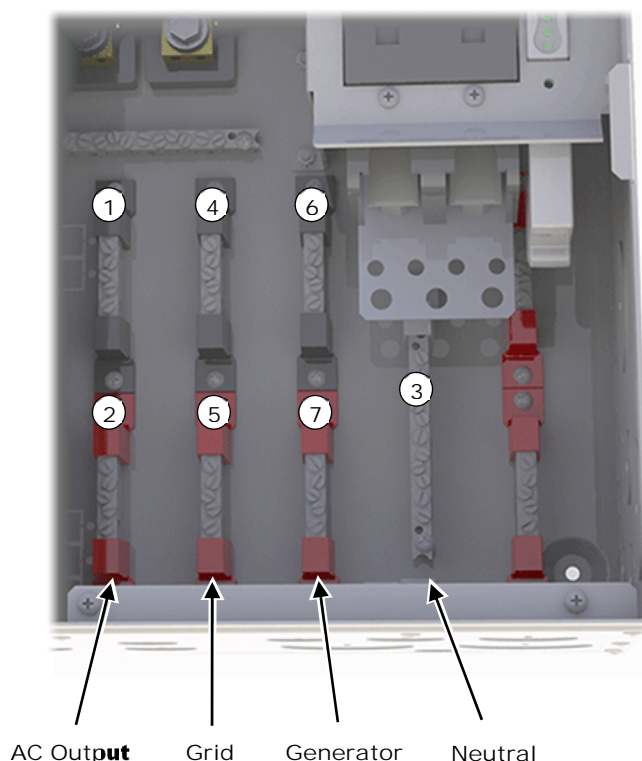

Figure 33 AC Terminal Bus Bars (split-phase)
If no bypass assembly is used, connections should be made directly to each TBB from the circuit breakers for the inverter, AC sources, and loads. These connections are designated in Figure 33.
1. Designate the top AC circuit breaker as the inverter AC output disconnect. Install a wire from the black AC output TBB (as shown in Figure 33) to the disconnect marked by 1.
4. Designate the third AC circuit breaker from the top as the disconnect for one AC source (**GRID** or **GEN**). Install a wire from the black source circuit TBB (as shown in Figure 33) to the disconnect marked by 5.
8. Install a wire on the inverter's **NEU** terminal and connect it to the GSLC's neutral TBB (as shown in Figure 33). *Only one neutral connection is required.*